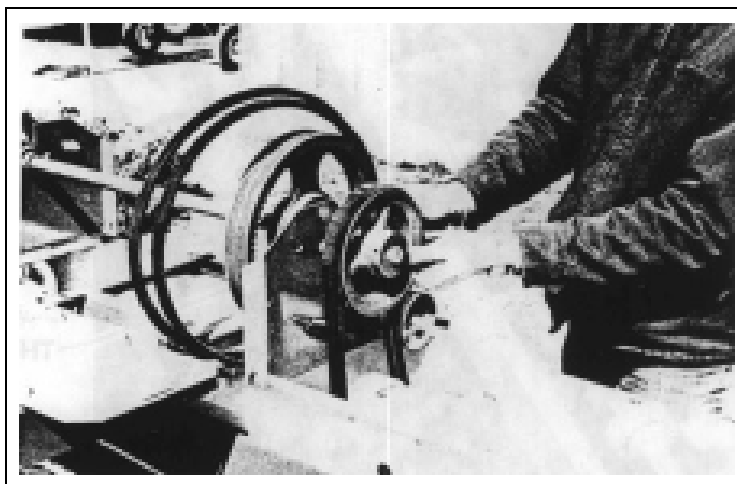
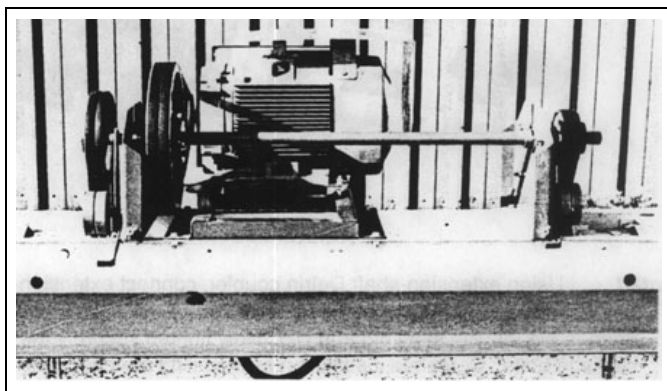
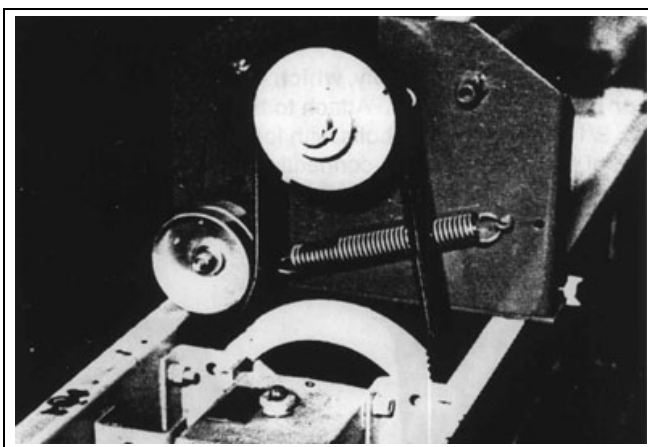

Figure 4R
Figure 4S
Figure 4W
21. Installation of gearbox drive belts - **4 Auger Unit:** Using two (2) set of AX-38 V-belts, install one matched set on each end of top drive assembly. Check to be sure belt alignment is proper. Also, be sure clutch idlers are positioned as shown in Figure 4R on Page 23 and Figure 4S.
BE SURE CLUTCH IDLER IS INSTALLED AS SHOWN IN Figure 4R on Page 23, Figure 4S below and Figure 4W on Page 25 WHEN INSTALLATION IS COMPLETE.